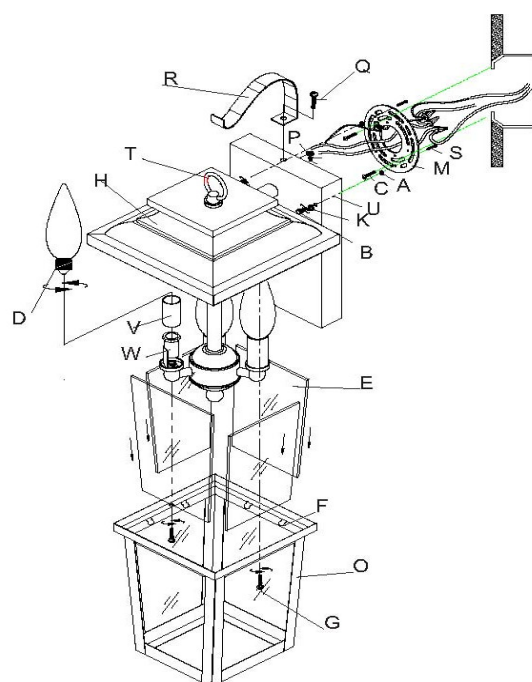

Fig. 2
CONNECTING ELECTRICAL (Fig.2)
5. Connect the electrical wires as shown in (Fig.2), making sure that all wire connectors are secured. If your outlet has a ground wire (green or bare copper), connect the fixture ground wire to it. Otherwise, connect the fixture ground wire directly to the mounting plate using the green screw provided.